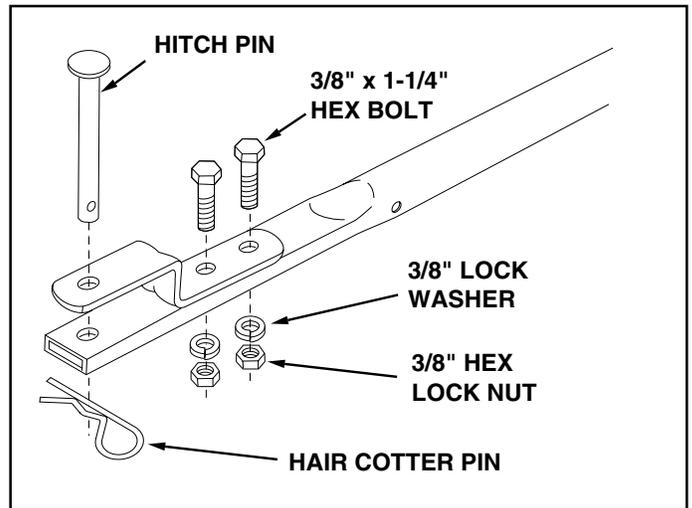

FIGURE 6
13. Assemble the hitch bracket to the top of the hitch tube using two 3/8" x 1-1/4" hex bolts, 3/8" lock washers and 3/8" hex lock nuts. See figure 6.
14. Assemble the hitch pin through the hitch bracket and the hitch tube and secure with the hair cotter pin. See figure 6.